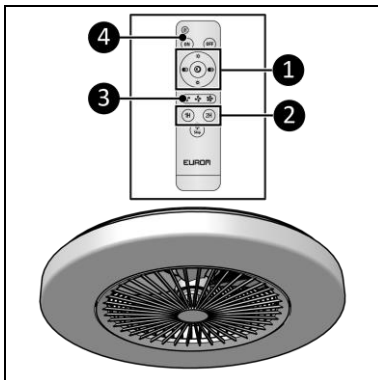

Figure 13
1. Press the LED ON button (Figure 13, pos 4.).
2. Adjust the desired light settings with the (Figure 13, pos. 1):
1. Press the fan speed button until the desired fan speed is reached (Figure 13, pos. 3):
1. Use the 1H or 2H buttons to set the countdown timer (Figure 13, pos. 2).